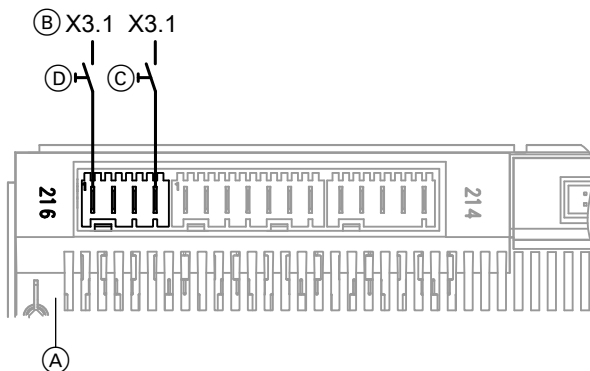

Fig. 56
- To the heat pump control unit as shown in Fig. 56